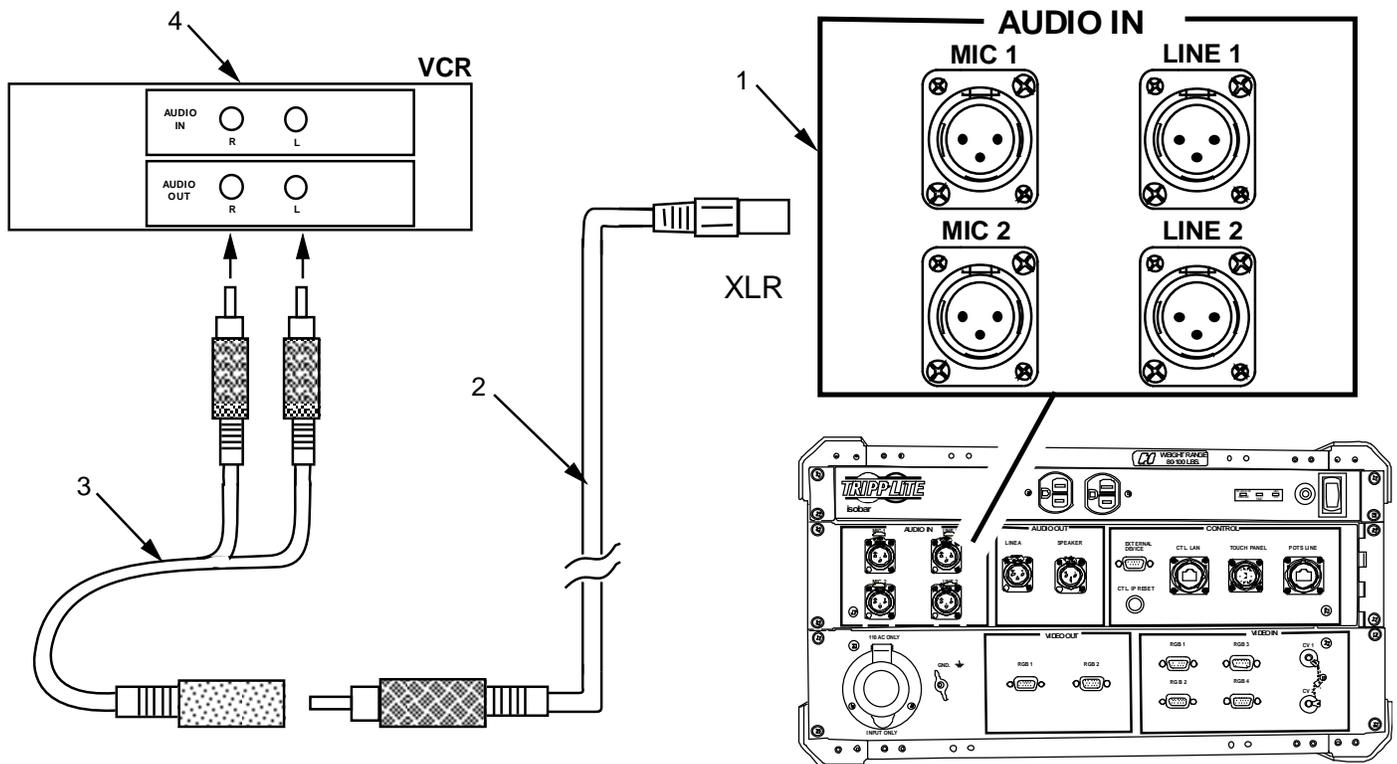

Figure 6. Connect Aux Equipment to AVCS (MINI) System.
3. Obtain one XLR cable (Figure 6, Item 2) from the ancillary equipment case.